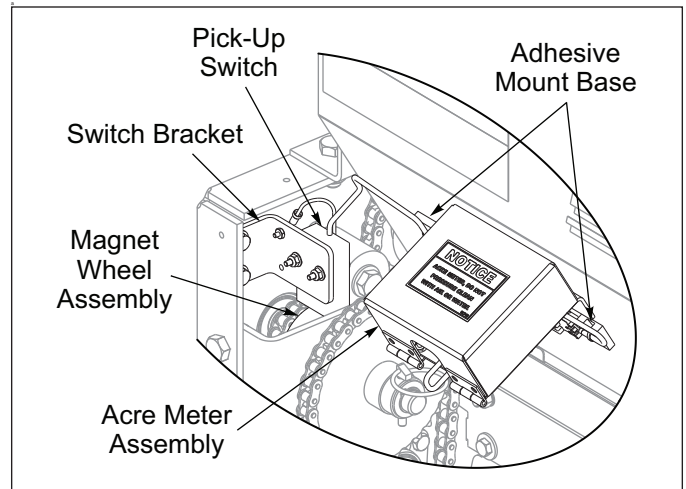

Figure 2-15: Secure Acre Meter Cords
18. Securely fasten the cords with tie wraps and Adhesive Mount Bases to the Agitator Seed Box to prevent cords from becoming entangled or rubbing on moving parts. **See Figure 2-15.**